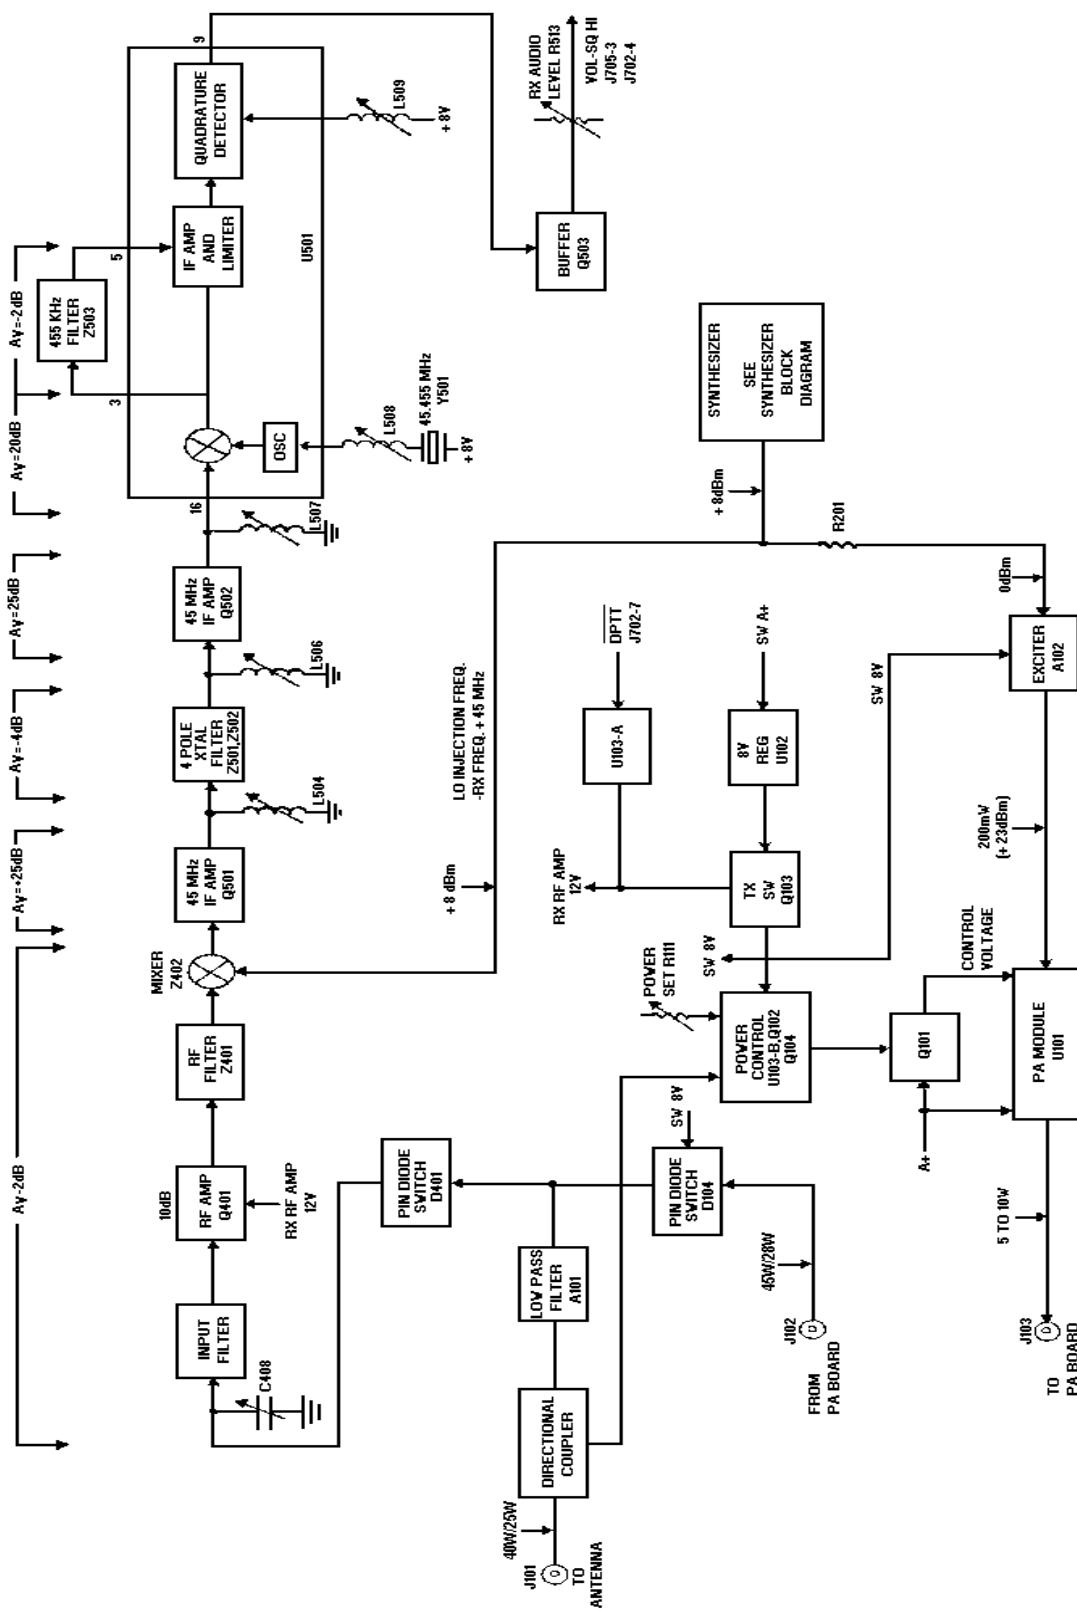
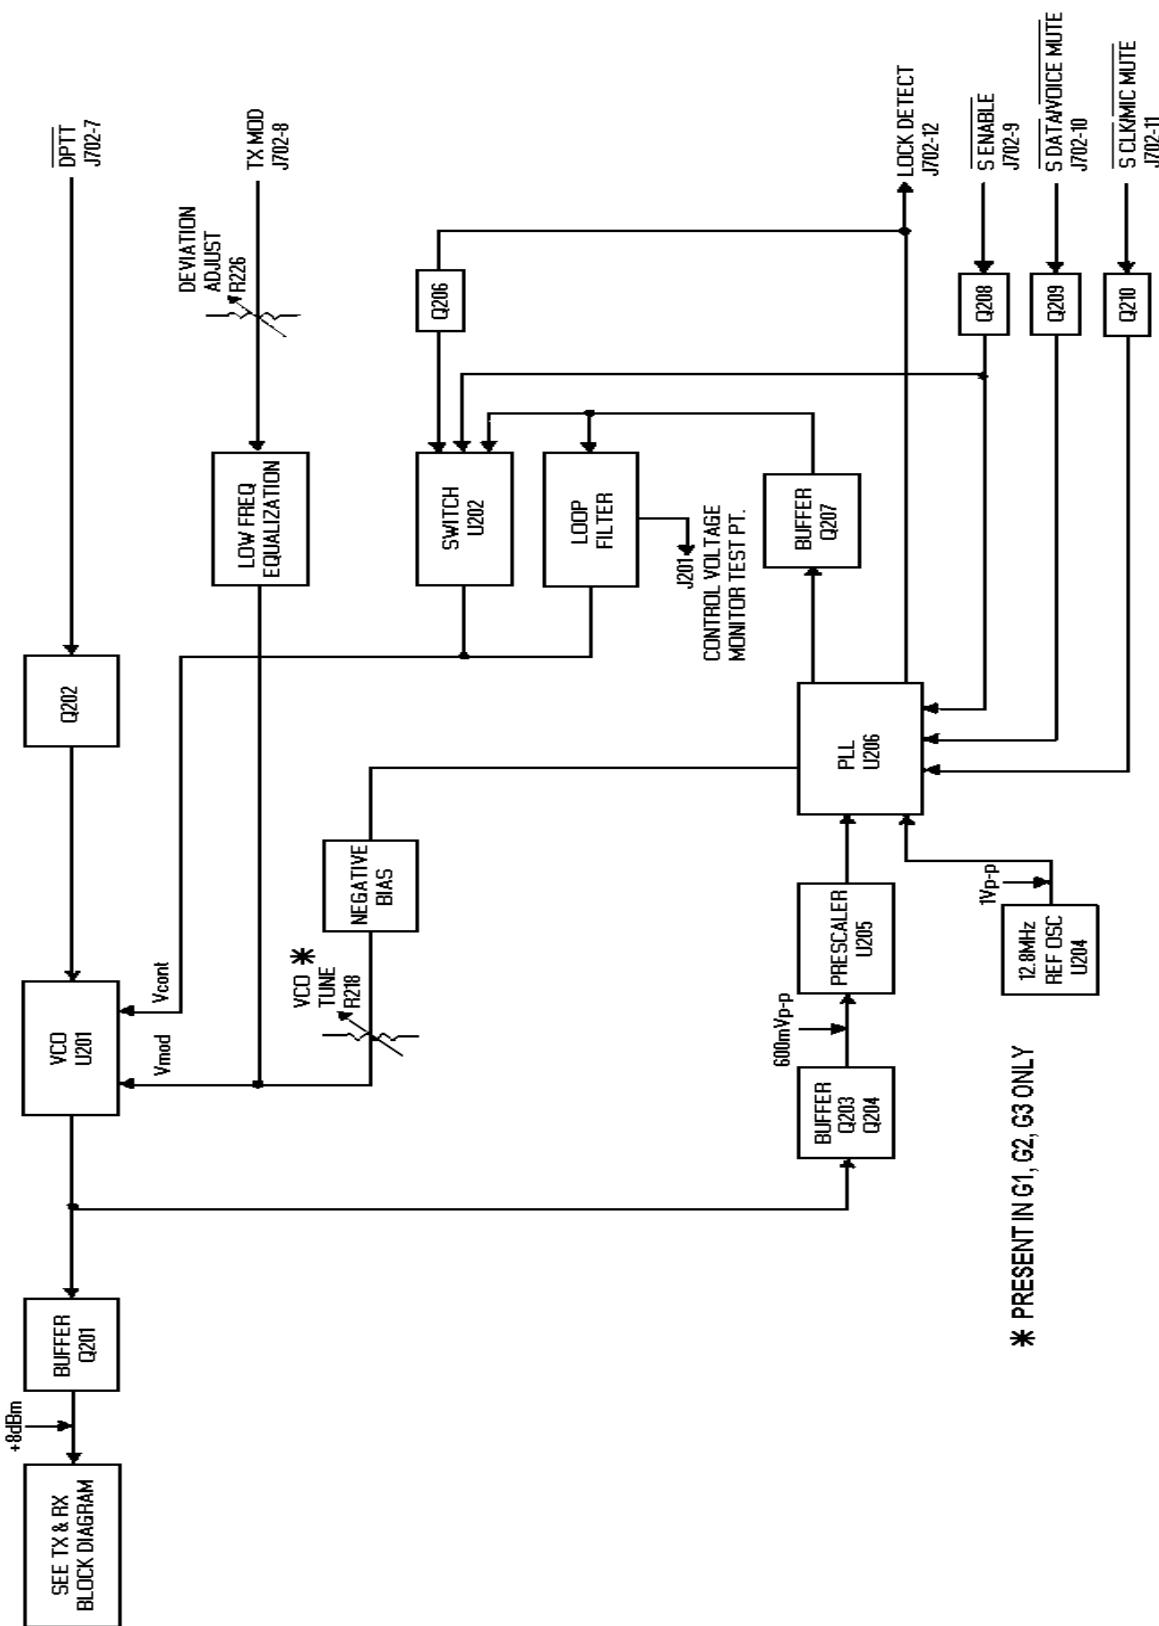

Figure 1 - TX And RX Block Diagram
Figure 2 - Frequency Synthesizer Block Diagram
The RF Board is mounted in the bottom of the frame assembly. Refer to the Combination Manual for the mechanical layout of the radio. Figure 1 provides a block diagram of the receive and transmit circuits. Figure 2 provides a block diagram of the synthesizer.
Figure 1 shows the synthesizer driving the receive mixer at +10 dBm and is attenuated by resistor R202 to +3 dBm for driving the exciter input. Exciter module A102 operates from a switched 8 volt supply. A different exciter module is required for each of the three band splits. No tuning is required. Both input and output ports operate at 50 ohms impedance. The exciter module provides typically 20 dB of gain and 200 mW of output power to drive the power amplifier module.
Most transmit circuit problems can be isolated by checking the TX power gains shown in Figure 1 - RX and TX Block Diagram. The PA Board may be bypassed by placing a jumper cable between J103 and J102 on the RF Board. The PA module U101 is capable of producing 10 watt output
• Poor SINAD	<ol style="list-style-type: none"> <li>1. Consult Figure 1 - RX and TX Block Diagram for RX stage gains and troubleshoot. NOTE: Use a high impedance RF probe when measuring gain at TP401. A 50-ohm probe may be used if C415 is removed. DO NOT adjust Z401 or Z402 without sweep equipment or the 20 MHz sensitivity bandwidth will be sharply reduced.</li> <li>2. Input cable.</li> <li>3. PIN Diode switch is shorted.</li> </ol>